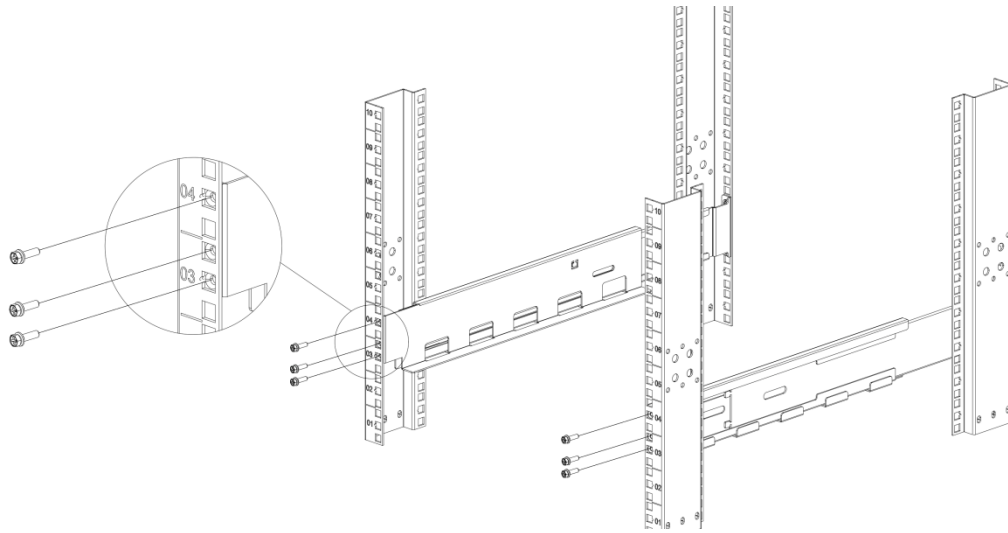

Figure 10: Install the Front Side of Rails
2. Install the front side of the rail kit with 3x Phillips Pan Head M5 screws (see Figure 10) on each rail. Do not tighten the screws.